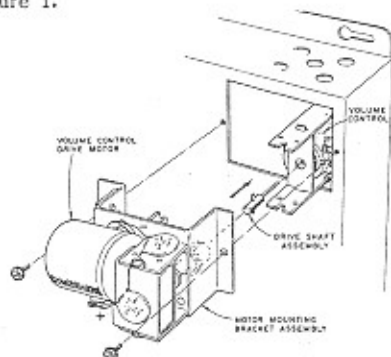

Figure 1. Drive Motor & Bracket Installation.
4. Align the drive pin of the Drive Shaft with the slot in the Drive Motor Coupling and install the Drive Motor and Bracket Assembly as shown in Figure 1.